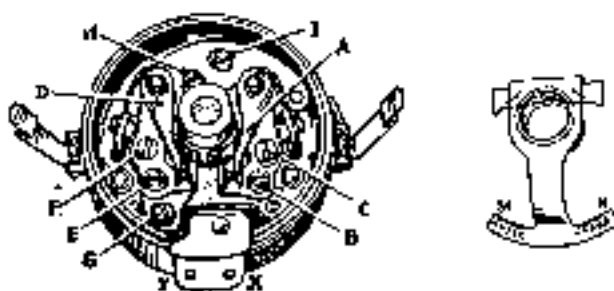

Fig. 2
To synchronize breaker arm on 8 cylinder distributors with 4 lobe cam.—One set of contact points is stationary and the other set is movable. The stationary set is adjusted first and synchronizing is completed by adjustment to the movable set of points. To set contact opening of arm (A), Fig. 2, turn distributor shaft in its direction of rotation which is clockwise viewed from top until rubbing block of breaker arm (A), is on lobe of cam. Loosen screw (B), and turn screw (C) to get contact opening which should be from .018" to .024" and preferably .022". Tighten screw (B).
Two types of 8 cylinder distributors were used on Auburn cars. The first type has an 8 lobe cam with two sets of contact points in series opening simultaneously. The second or latest type (Fig. 2) uses a 4 lobe cam with two sets of contact points in parallel.